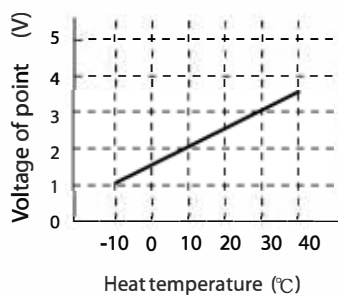
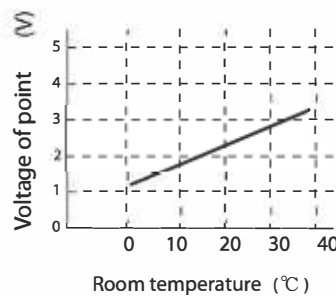
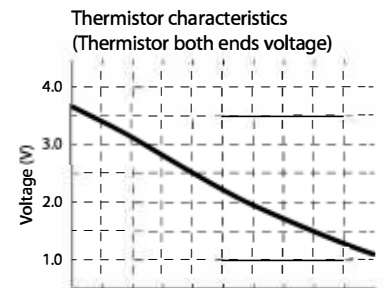

Fig. 6-1
Fig. 6-2
Fig. 6-3
- The relationship between the temperature of the thermistor and the circuit voltage is roughly as shown in Fig.6-1 and Fig.6-2. When it is easy to measure between the terminals of CN4 in actual measurement, use the graph of Fig. 6-3 "Thermistor both ends voltage".